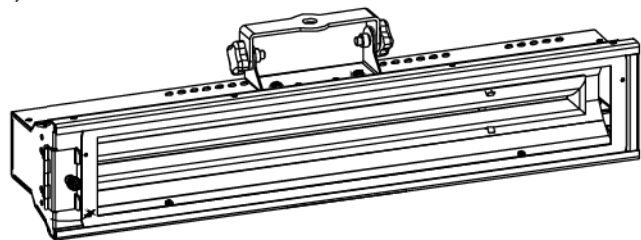

Figure 10
3. Swing latch closed and fasten in place (Fig. 10).